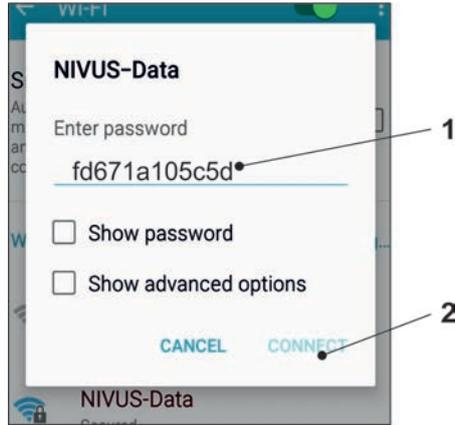

Fig. 26-4 Enter password (here fd671a105c5d as example) and connect
5. Enter the password for server access (delivery status = PUK) (Fig. 26-4 Pos. 1) and connect (Fig. 26-4 Pos. 2).